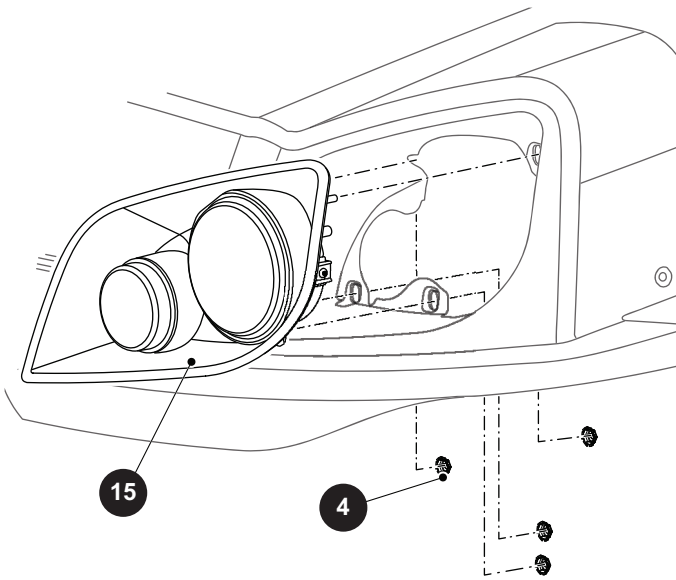

Fig. 9 Headlight Assembly
3. Remove the self threading nuts (4) securing the headlight assembly (15) to the cowl (Ref Fig. 9).